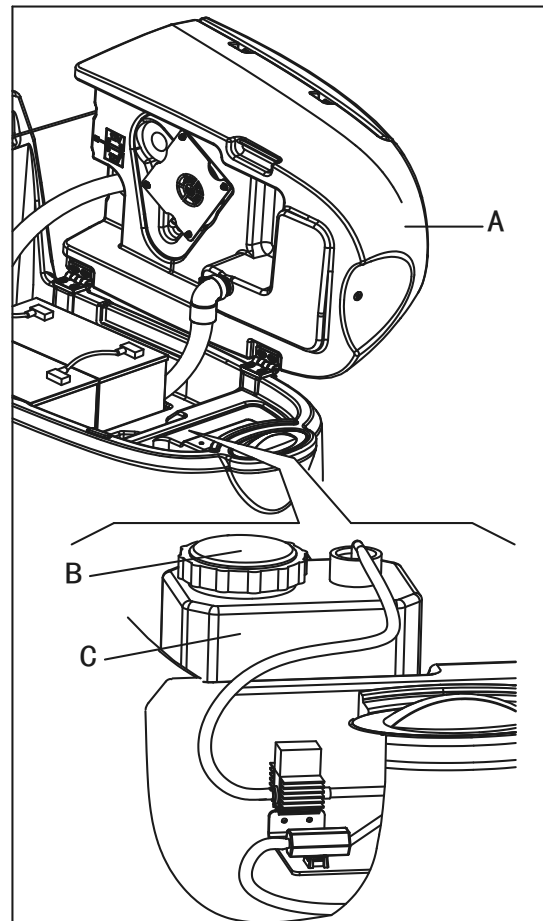

Figure 8
1. Open the cover (E) and check that the recovery tank (F) is empty, otherwise empty it with the drain hose (G).
2. Carefully overturn the recovery tank (A, Figure. 8).
3. Open the cap (B).
4. Replace or fill the jug (C) with any standard gallon container of detergent suitable for the work to be performed (highly concentrated detergents). Do not fill the detergent tank completely, leave a few centimeters from the edge.